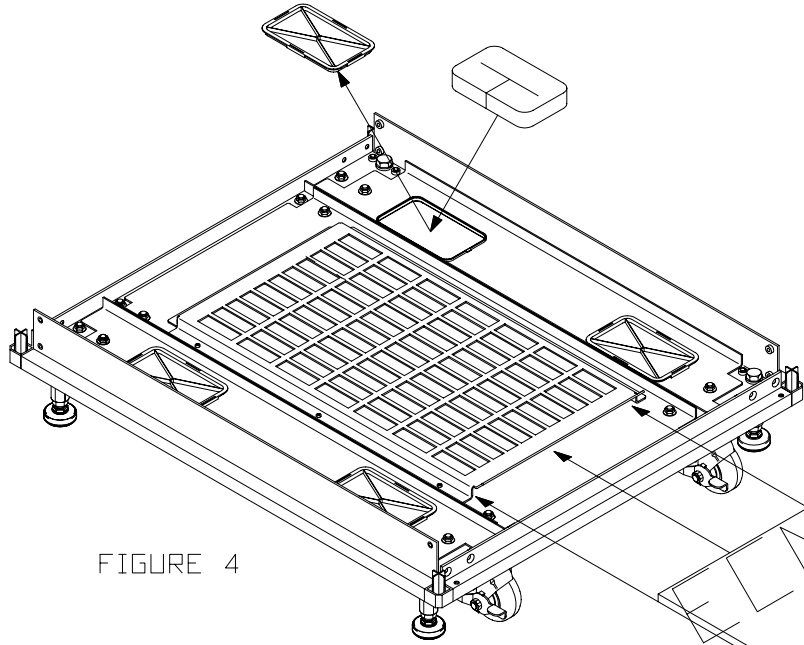

FIGURE 4
7. FILTER SLIDES INTO SLOT AS SHOWN IN FIGURE 4. INSTALL STIFF SIDE OF FILTER UP TOWARD FANS.
8. REMOVE PLUG FROM CABLE PUNCH-OUT PORT AND REPLACE WITH FOAM INSERT (P/N 12505-001, 2/PACK), AS SHOWN IN FIGURE 4.